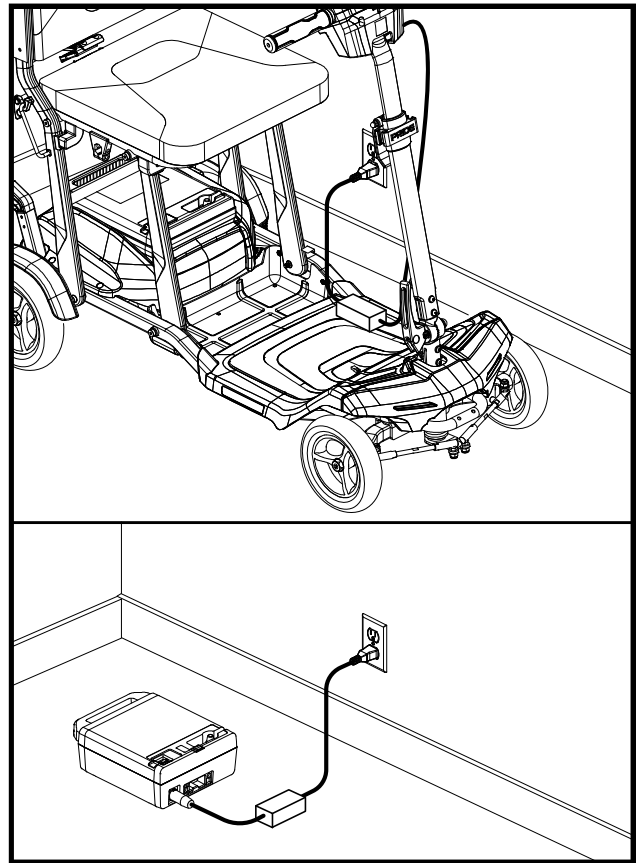

Figure 9. Battery Charging
1. Place your scooter next to an electrical outlet. See figure 9.
5. Plug the charger power cord into the wall electrical outlet. See figure 9.
6. Wait two (2) minutes. Two (2) red LED lights on the charger signify that charging has begun.
**NOTE:** If the steps above were not performed in the correct order, unplug the charger cord from both the wall electrical outlet and the scooter, wait one (1) minute, and then repeat the steps above in the order shown.